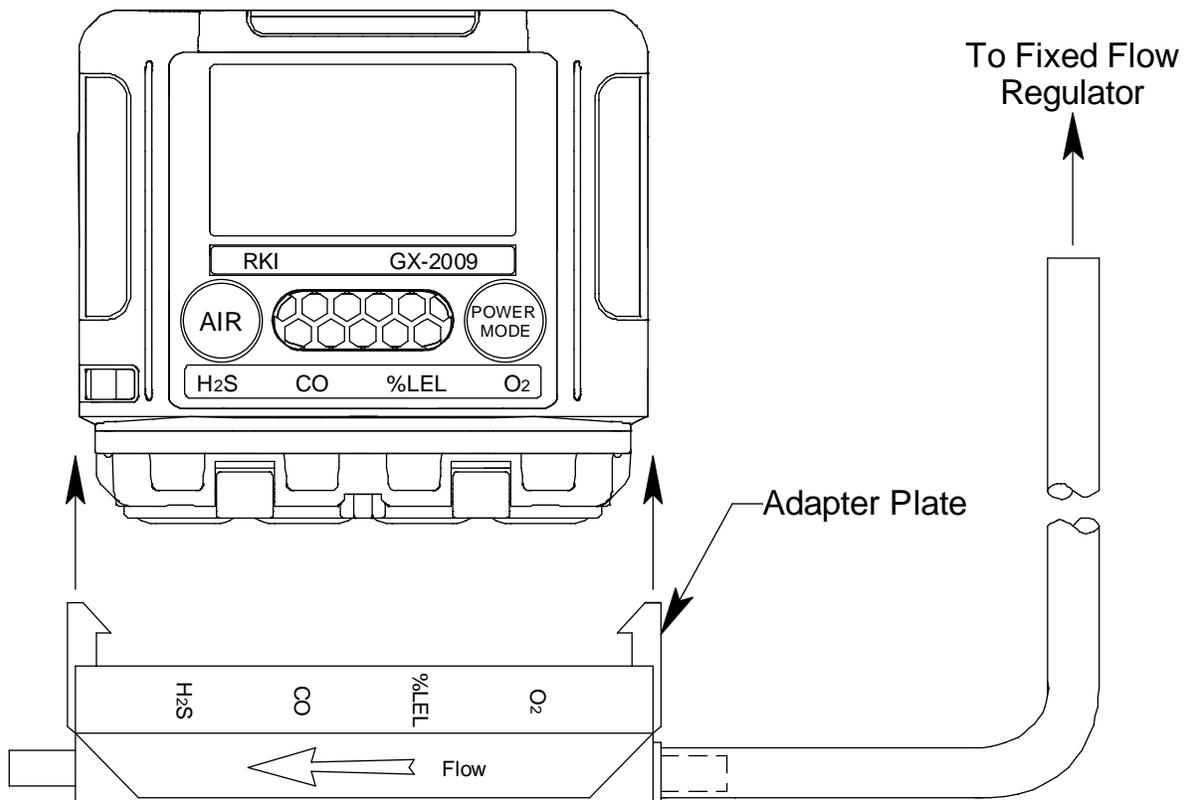

Figure 27: Installing the Adapter Plate, Auto Cal
9. Hold the GX-2009 in place with one hand while pushing the adapter plate onto the GX-2009's sensor face with the other to avoid moving the GX-2009 excessively and losing the connection to the computer. Make sure the adapter plate is oriented as shown in Figure 27 below with the sensor names on the adapter plate matching up with the sensor names on the instrument.